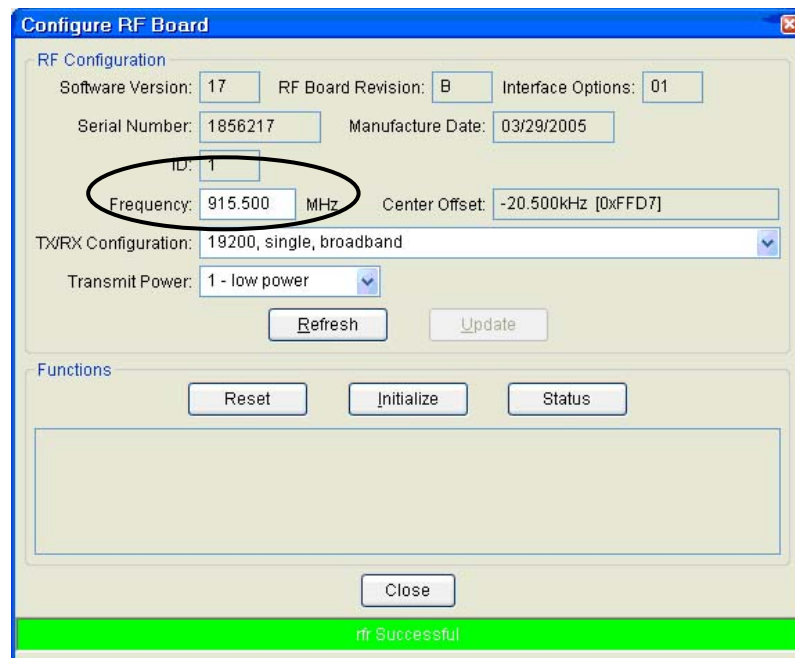

Fig. 8.9: Change Frequency
8.6.1.4 From the BinComm main menu screen, click on **Comm Port > Configure RF Board** to set the RF Frequency in the Monitor. A screen similar to Fig. 8.9 should appear.